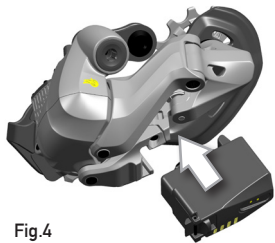

Fig.4
- Insert the battery into the rear derailleurs by sliding it from the bottom to the top (Fig.4).